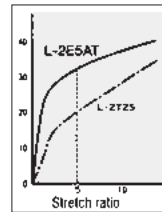

Fig. 1 Pull Load and Stretch Ratio for Cable
- The L-2E5AT contains the Teton cable filler reinforcement material. <Fig. 1>